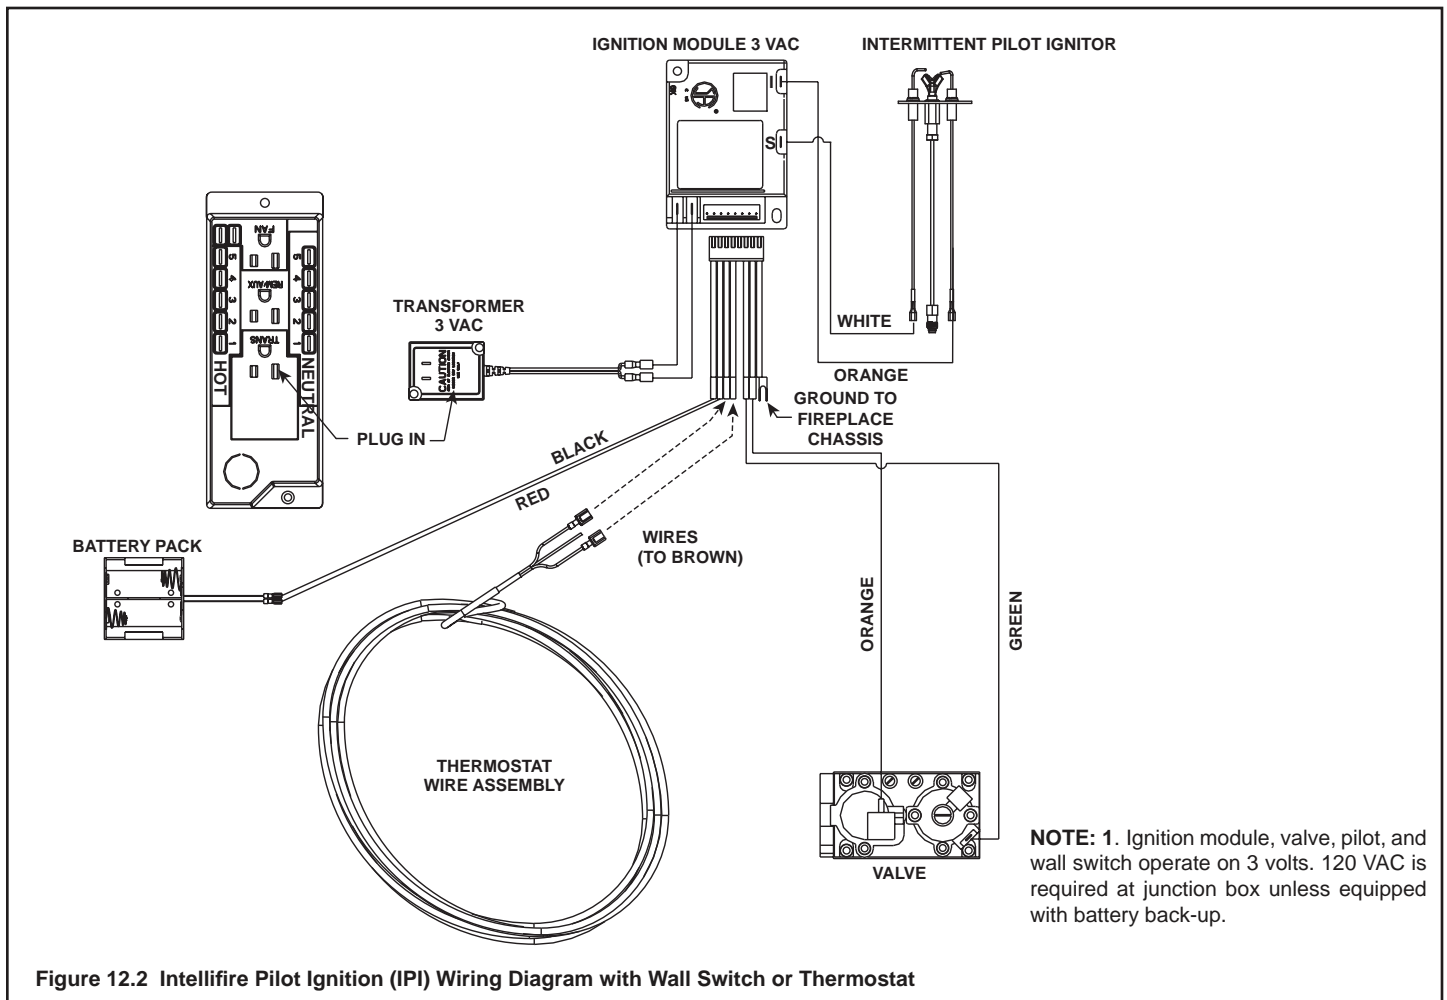

Figure 12.2 Intellifire Pilot Ignition (IPI) Wiring Diagram with Wall Switch or Thermostat
- Refer to Figure 12.2, Intellifire Pilot Ignition (IPI) Wiring Diagram.